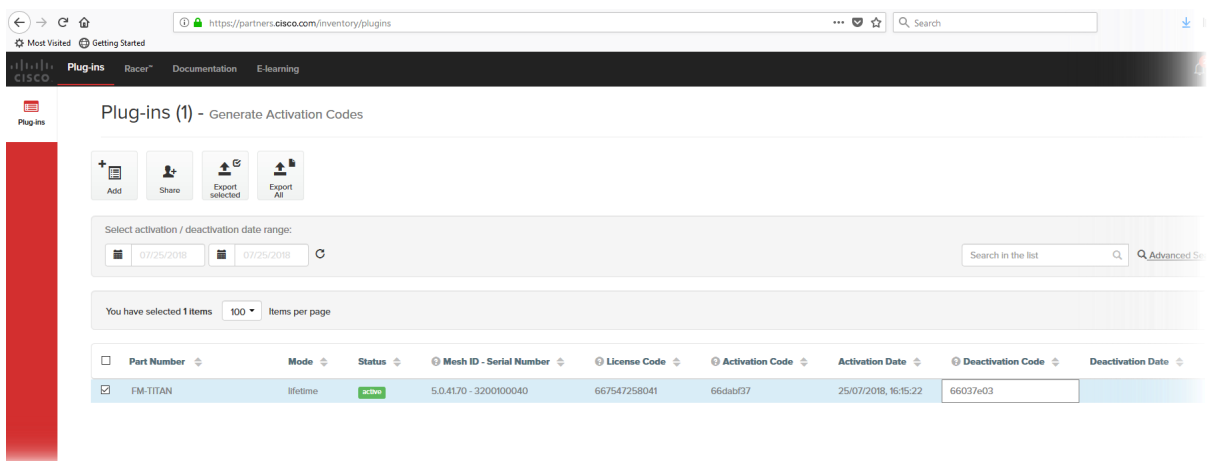

Figure 69. Partner Portal Plug-ins page (deactivation code entry)
8. Enter the Deactivation code for the plug-in in the Deactivation Code field (Figure 69 (page 149)).